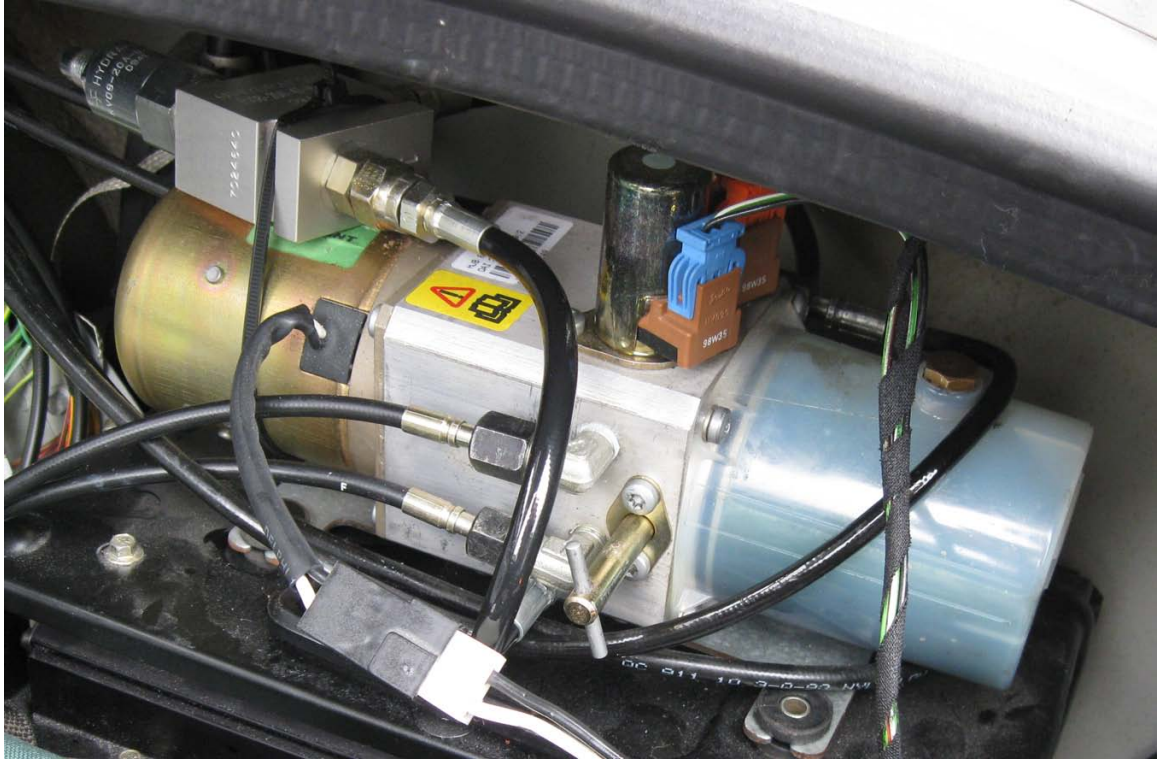

Figure 5 – Pump and kit installed
11. Position the Hydraulic Valve on the top side of the pump motor with the pointed end toward the front of the car and fasten the other end of Hose 2 to Valve Port 2 and tighten with the 11/16 wrench. Refer to Figure 5.